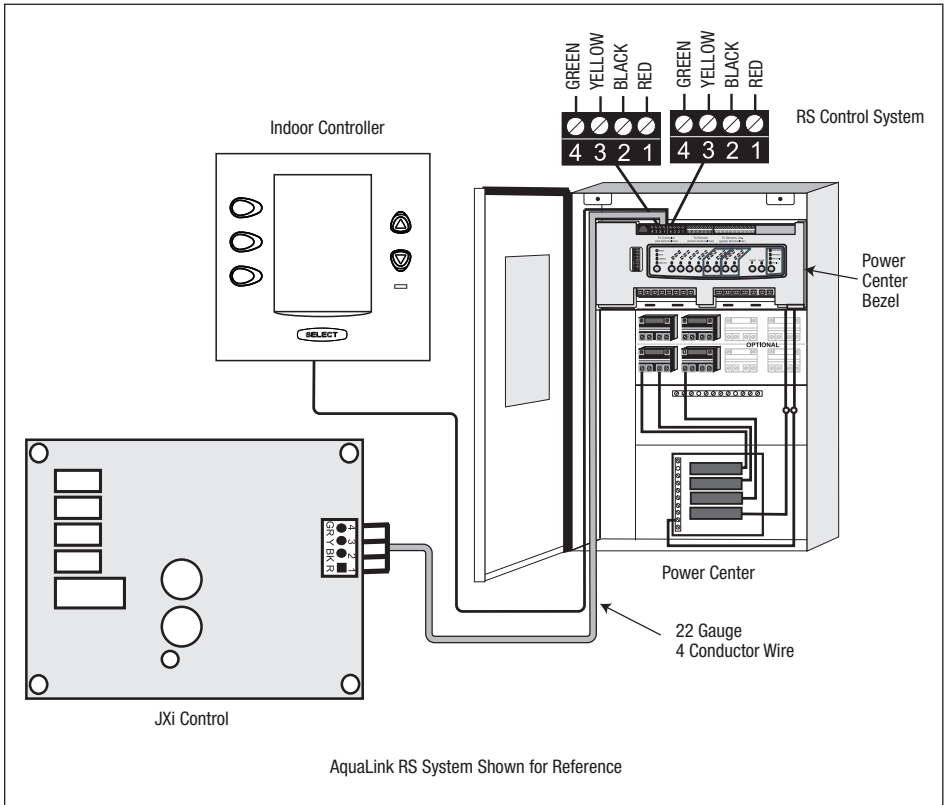

Figure 19. Wiring the JXi to a Zodiac® Remote
- Use 22 gauge 4-conductor wire to run between the heater and the control system and match the wire color order. See *Figure 19*.